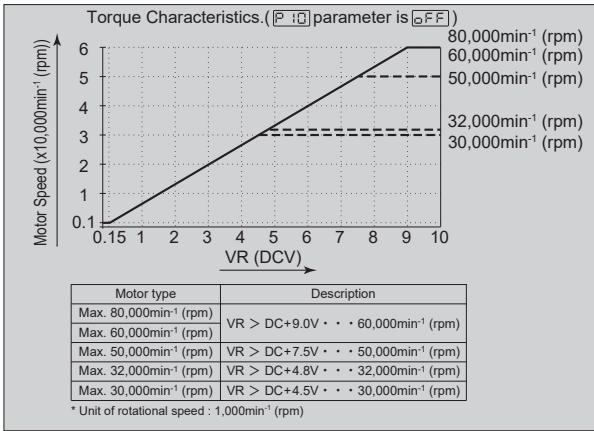
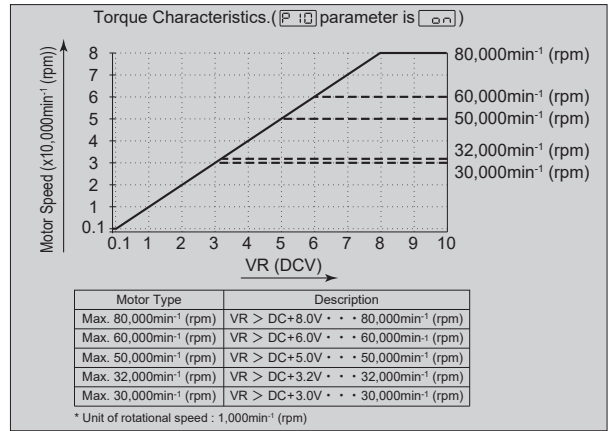
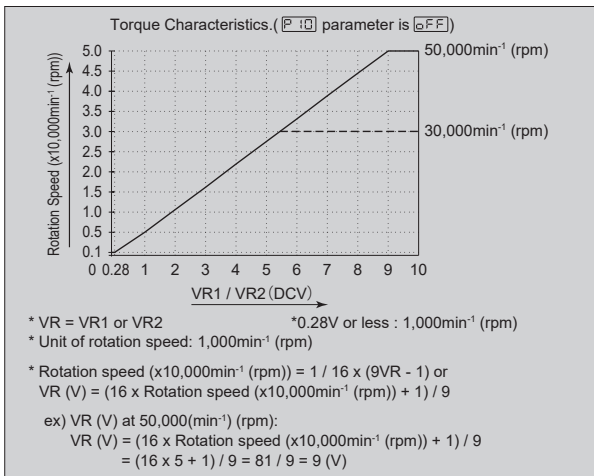
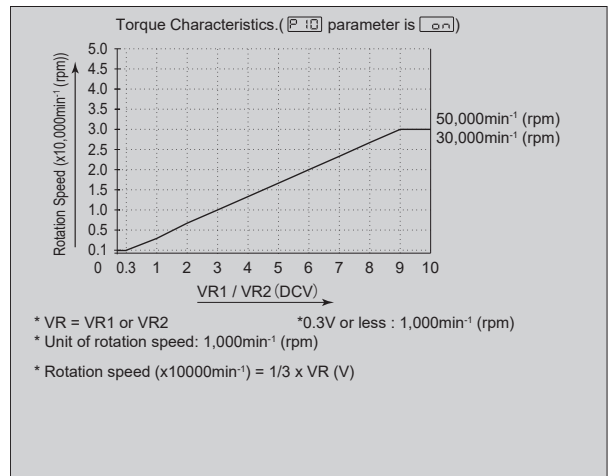

Fig. 60
Fig. 61
Fig. 62
Fig. 63
- (1) Except when E2280 compatible output (parameter **P 14**) and E2280 motor selection (parameter **P 15**) is selected
- For the characteristics of the VR and rotation speed by parameter **00** and **0FF**, refer to Fig. 60 and Fig. 61.
- (2) When of E2280 compatible output (parameter **P 14**) or E2280 motor selection (parameter **P 15**) is selected.
- For the characteristics of the VR and rotation speed by parameter $\boxed{\text{000}}$ and $\boxed{\text{FFF}}$, refer to Fig. 62 and Fig. 63.